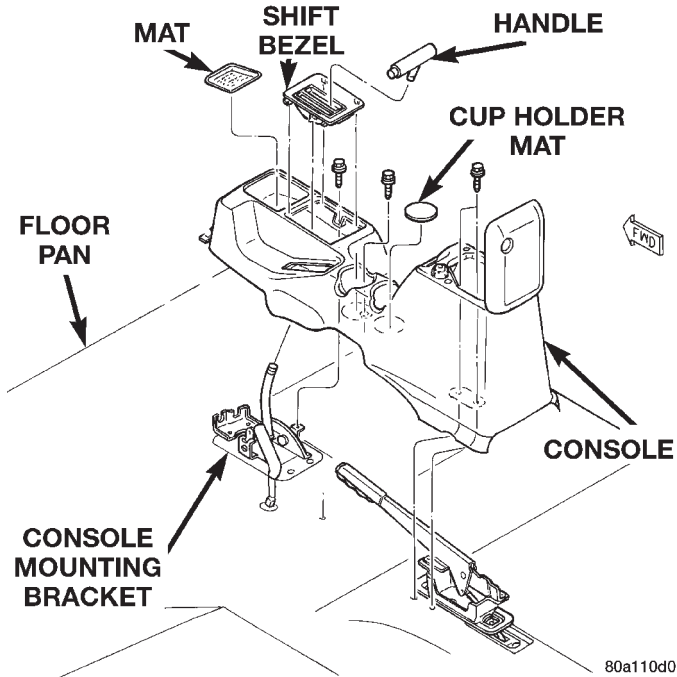

Fig. 61 Full Floor Console
- (6) Remove the bolts attaching the console to the floor pan (Fig. 61).
- (7) Shift transfer case to four low position.
- (8) Engage parking brake.
- (9) Lift the console upward and rotate to remove through the passenger door.